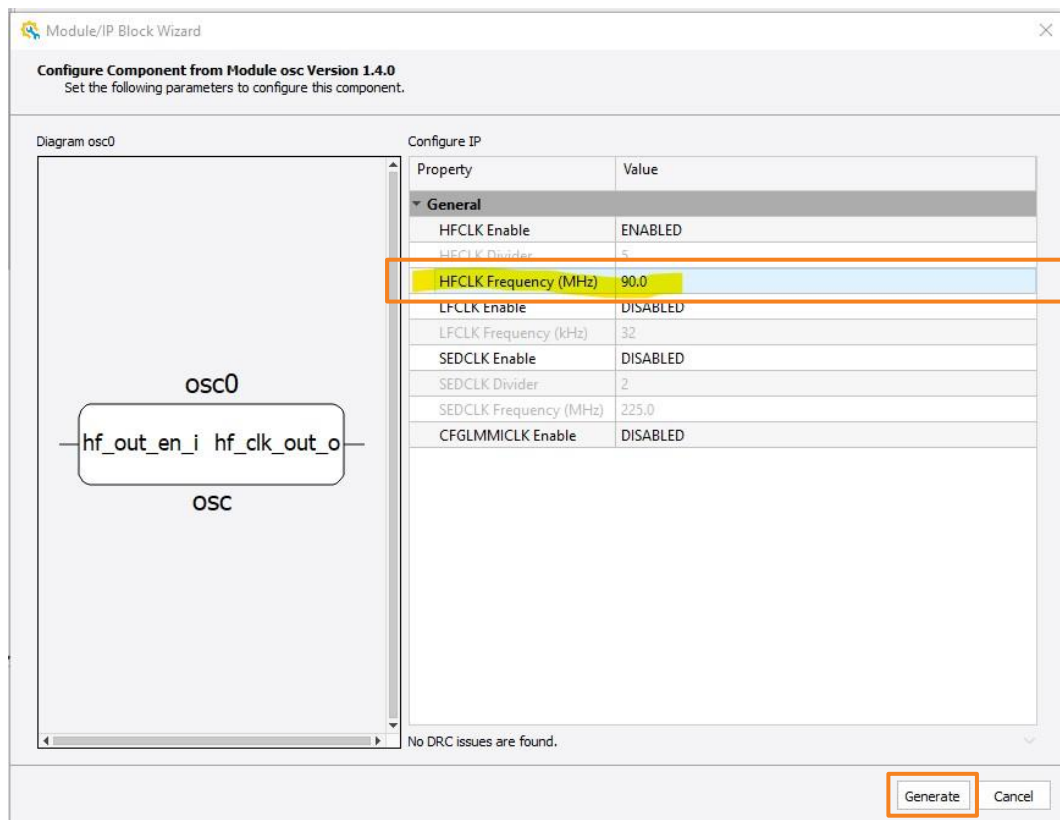

Figure 3.20. Propel Builder – Oscillator IP Configuration
1. Double-click on the **osc0_inst** component to open the IP configuration window as shown in Figure 3.20. Change the **HFCLK Frequency** to **90.0 MHz**. Then click **Generate**.